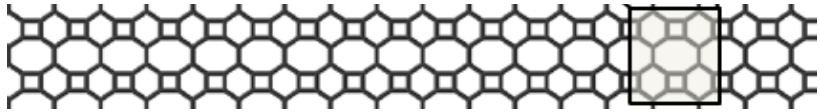

Fig. 1
Biphenylene (BP), **Fig. 1**, is the last member of the 2D carbon allotropes family which has been reported very recently [Fan et al., Science 372, 852–856 (2021)]. It is made of a combination of 4-, 6- and 8-membered rings. BP has been characterized as a 2D metal, due to the closing of the band gap upon increasing the width of BP ribbons via scanning tunnelling spectroscopy (STS). In this project we consider transport in BP and nanostructures based on BP (nanoribbons, nanomesh).